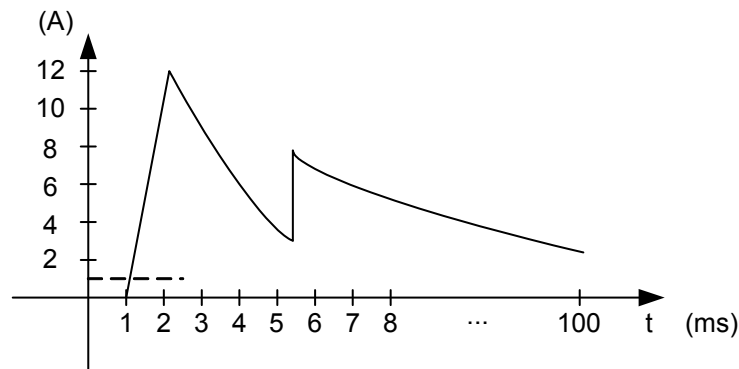

Figure 4-39 Measuring Inrush Current (2)
Users can use the following setting to measure the Inrush current (2) in Figure 4-39.
From Figure 4-39 it can tell that the current exceeds the trigger current (1A) around 1.1ms and after delayed for 3ms second, the 66202 Power Meter starts to measure the Inrush